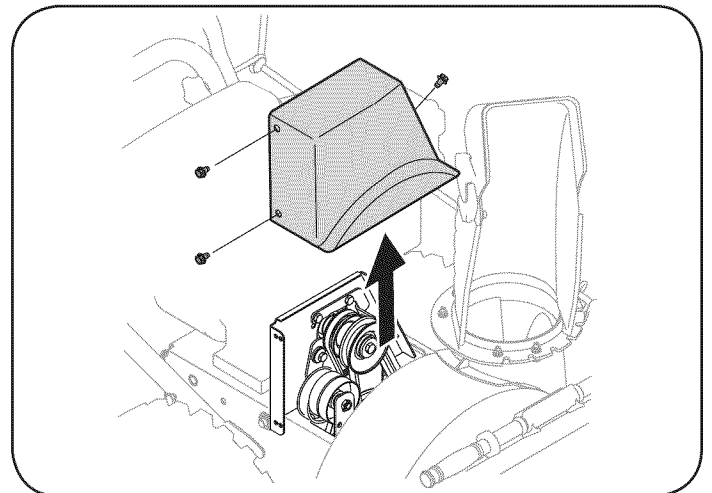

Figure 29
3. Remove the plastic belt cover, located near the engine, by removing the self-tapping screws that secure it. See Figure 29.